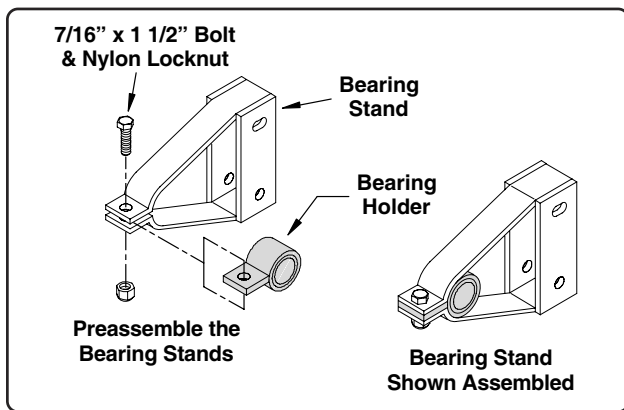

Fig. 6
1. Position the bearing holder to the inside of the bearing stand as shown in Fig. 6. Secure using one 7/16" x 1 1/2" bolt and nylon locknut.